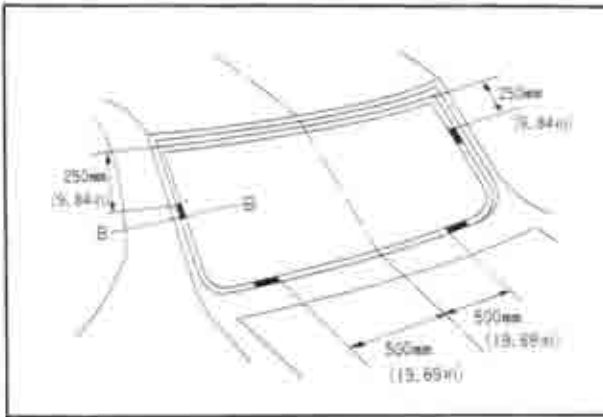

Fig. 14-17 Positions of spacers
3. The directions and positions of each spacer to be bonded are shown in Fig. 14-17.